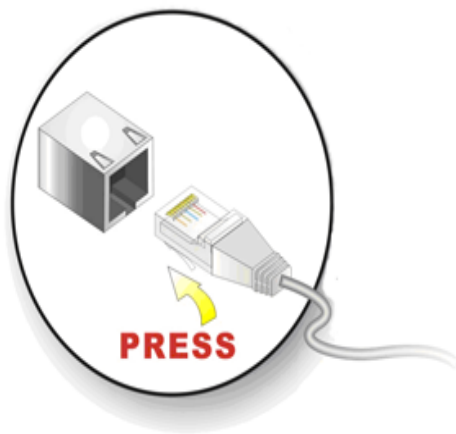

Figure 5-13: RJ-45 Ethernet Connector
- Step 2: Insert an RJ-45 plug.** Insert the RJ-45 plug of a LAN into the RJ-45 receptacle on the external peripheral interface. See **Figure 5-13**.